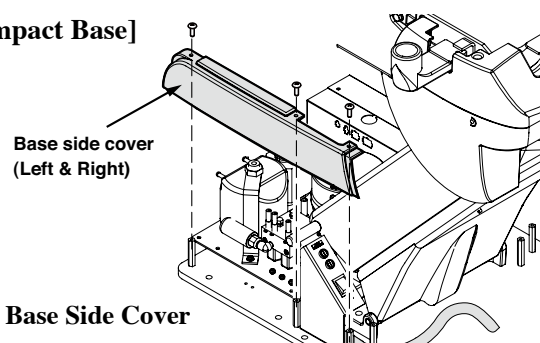

Fig.6-27 Fixing Base Side Cover
- Fix the base side cover (left and right) to the base plate with M5 x 10 pan head screws. **(Fig.6-27)**